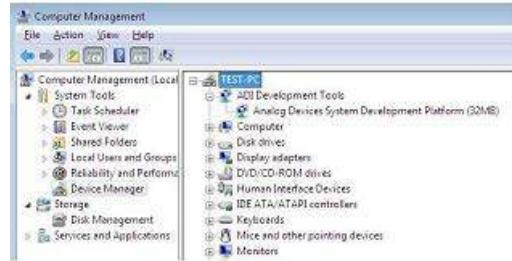

Figure 12. Checking if the Board is Connected to the PC Correctly
- The **Computer Management** window appears. Click **Device Manager** from the **System Tools** list (see Figure 12).